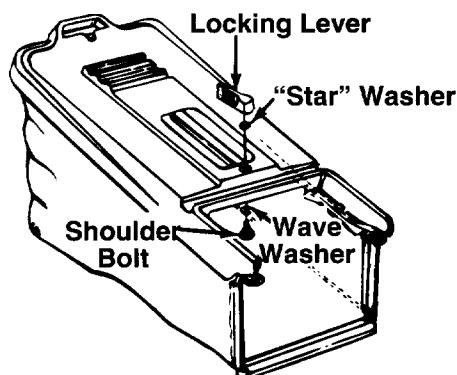

FIGURE 6.
- Insert shoulder bolt up through hole in hardtop cover as shown in figure 6. Place "star" washer over shoulder bolt.